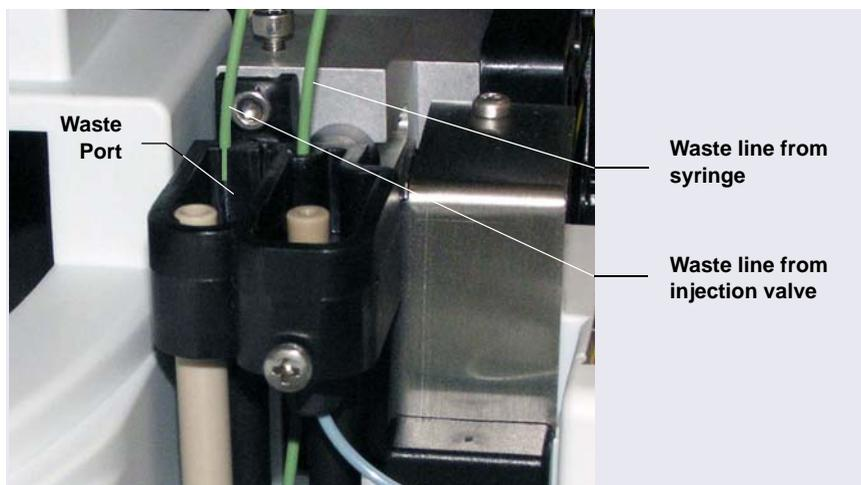
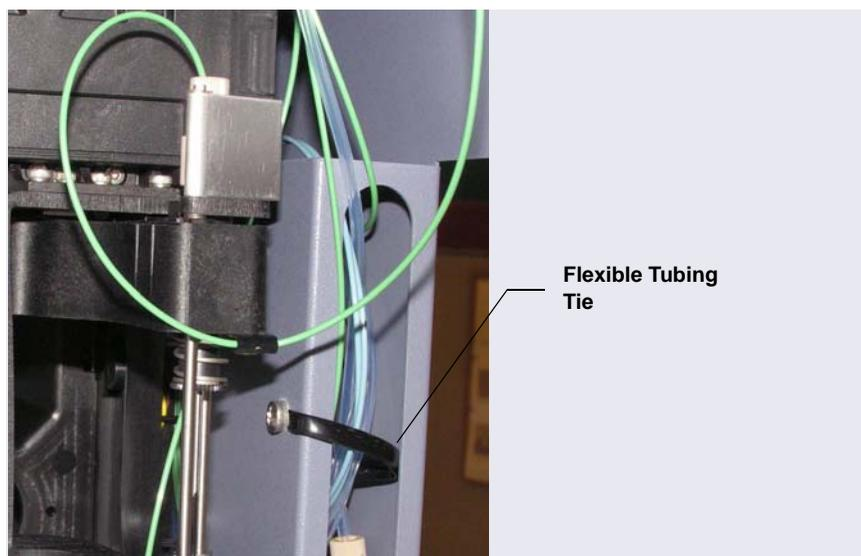

Figure B-20. Injection Valve Waste Line Installed in Waste Port
Figure B-21. Flexible Tubing Tie in Slotted Compartment
- d. Connect one end of the waste line to port **W** (6) on the injection valve. For a capillary system with a two-piece waste line, connect the black tubing to the injection valve.
4. Route the waste line from the injection valve to the Dionex AS-AP waste port and insert the line into one of the round openings in the waste port (see Figure B-20). To ensure the waste lines do not interfere with needle arm movement, secure the excess tubing with the flexible tubing tie in the slotted compartment next to the needle (see Figure B-21).
6. To ensure the waste lines do not interfere with needle arm movement, secure the excess tubing with the flexible tubing tie in the slotted compartment next to the needle (see Figure B-21).
7. To ensure the waste lines do not interfere with needle arm movement, secure the excess tubing with the flexible tubing tie in the slotted compartment next to the needle (see Figure B-21).